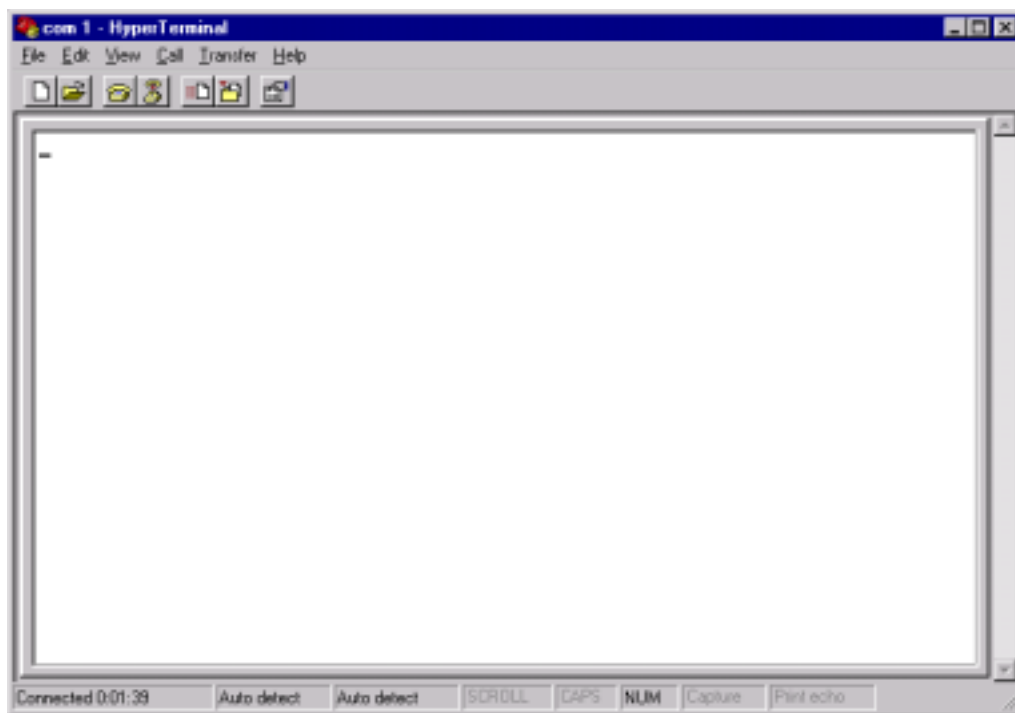

Figure 1-4
6. The HyperTerminal window will then open (Figure 1-4).